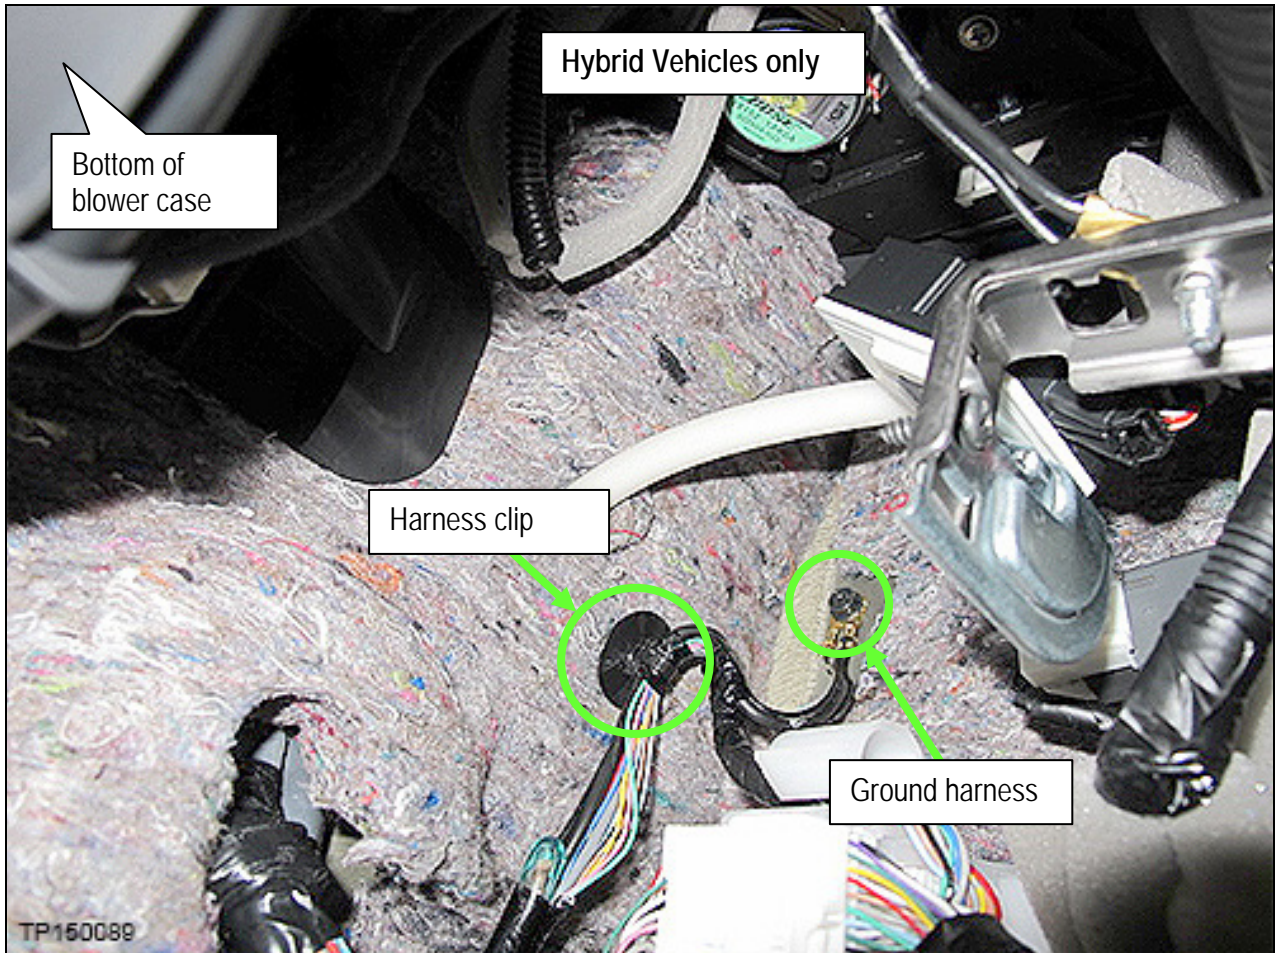

Figure 5
- Remove 10 mm screw holding the ground harness connector to the vehicle (Figure 5).
- Disconnect the harness clip supporting the harness (Figure 5).